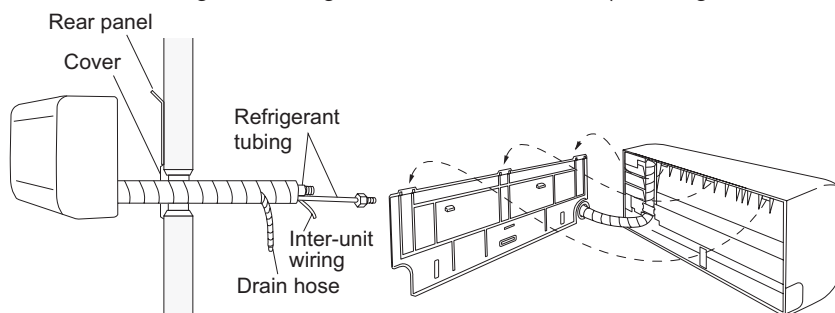

Fig. 2-253
- (1) Shape the refrigerant tubing so that it can easily go into the wall hole. (Fig. 2-253)